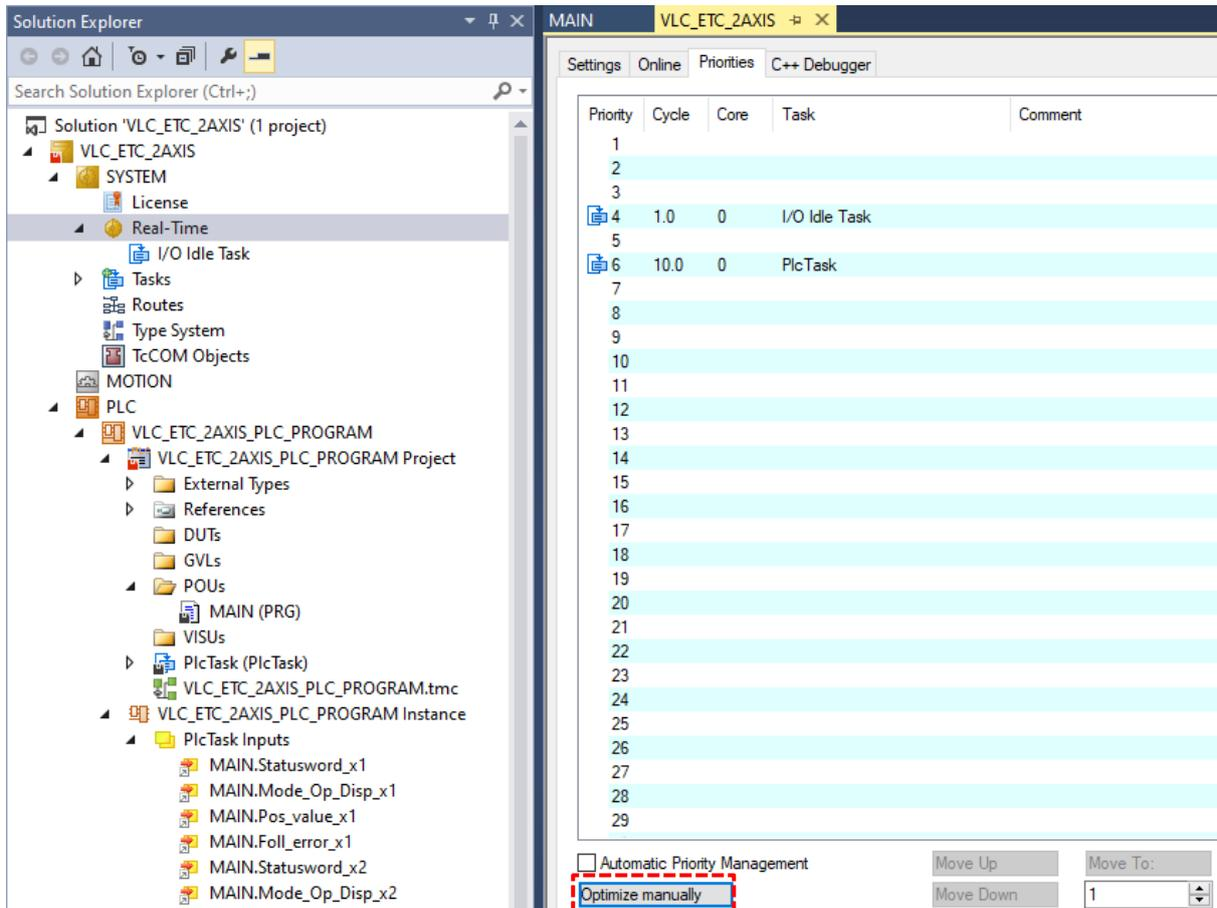

Figure 3.26.
- On the left-pane of Figure 3.26, select 'Real-Time' and go to the 'Priorities' tab and click on the 'Optimize manually' button highlighted in the below screen.